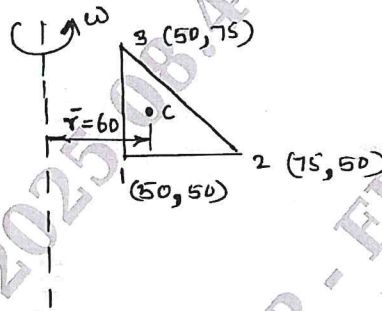

Fig.Q.9(b)
b. For the element of an axisymmetric body rotating with a constant angular velocity  $\omega = 1000 \text{ rev/min}$  as shown in Fig.Q.9(b). Determine the body force vector, include the weight of the material, where the specific density is  $7850 \text{ kg/m}^3$ . (08 Marks)